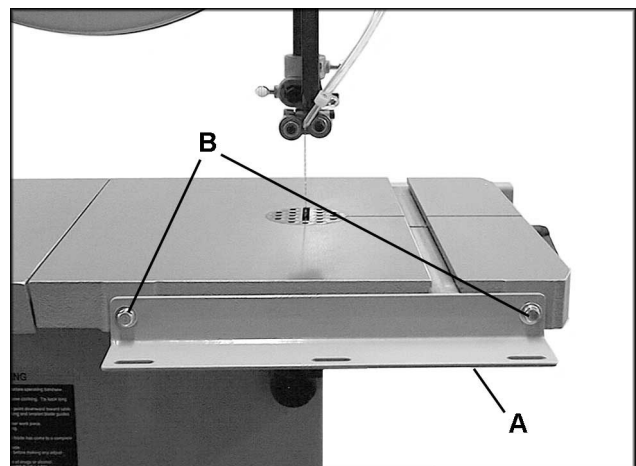

Fig. 14
3. Mount front rail (A, Fig. 14) to the band saw table using two M6 x 20 hex cap screws, two 1/4" lock washers and two 1/4" flat washers (B, Fig. 14). Do not tighten yet.
9. Lift up on both guide rail and fence together until the gap at the front edge of the table is acceptable. Tighten both screws on the front rail (B, Fig. 14).